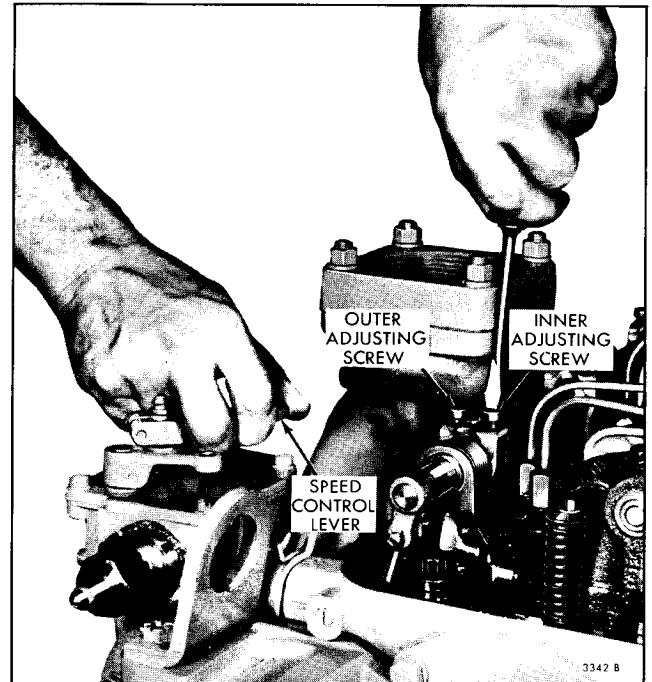

Fig. 2 - Positioning the Rear Injector Rack Control Lever
Adjust the rear injector rack control lever, Fig. 2, first to establish a guide for adjusting the remaining injector rack control levers.
1. Refer to Fig. 2 and disconnect any linkage attached to the speed control lever.
3. Move the speed control lever to the FULL FUEL position as shown in Fig. 2. Turn the inner adjusting screw down on the rear injector rack control lever until a step up in effort is noted. This will place the rear injector rack in the FULL FUEL position. Turn down the outer adjusting screw until it bottoms lightly on the injector control tube. Then alternately tighten both the inner and outer adjusting screws until they are tight.